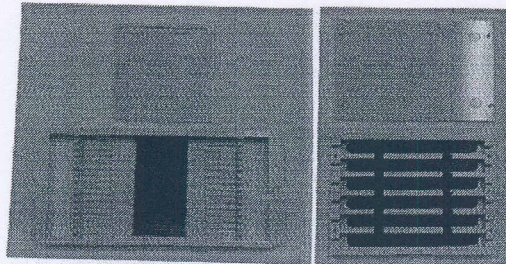

Figure 6. Single Fusion Splice tray on the left. Mass Fusion splice tray on the right.
1. When pigtail splicing is required install splice organizers into the tray as shown in Figure 6 and 7. Splice organizers are sold separately except when the product is ordered with pigtails or fan-outs.
4. Organize the fibers within the splice organizers (Figure 6) and then perform splicing. Splice the lower level pigtails on the first splice organizer and the higher-level pigtails on the upper splice organizers.